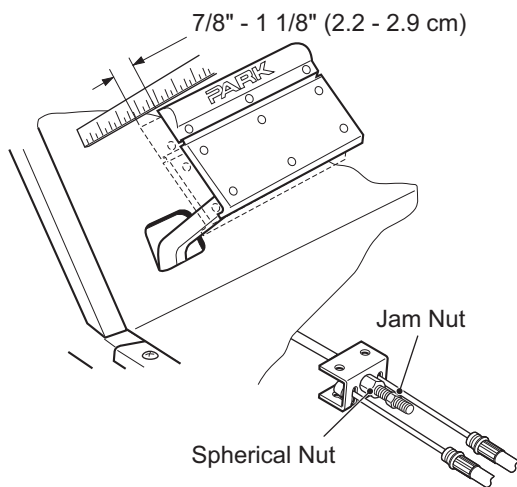

Figure 17 Free Travel Adjustment
1. Pre-adjust service brake pedal free travel to the correct setting by loosening the jam nut and adjusting the spherical nut (Figure 17). Tighten the jam nut to 10 - 11 ft. lbs. (14 - 15 Nm).